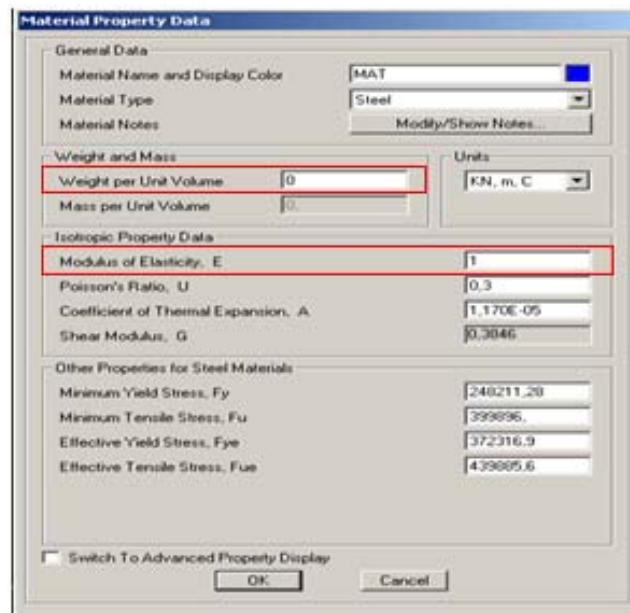

Figure 7
Hint: If flexural rigidity (EI) and axial rigidity (AE) of sections are given take E=1 for simplicity (Fig7).